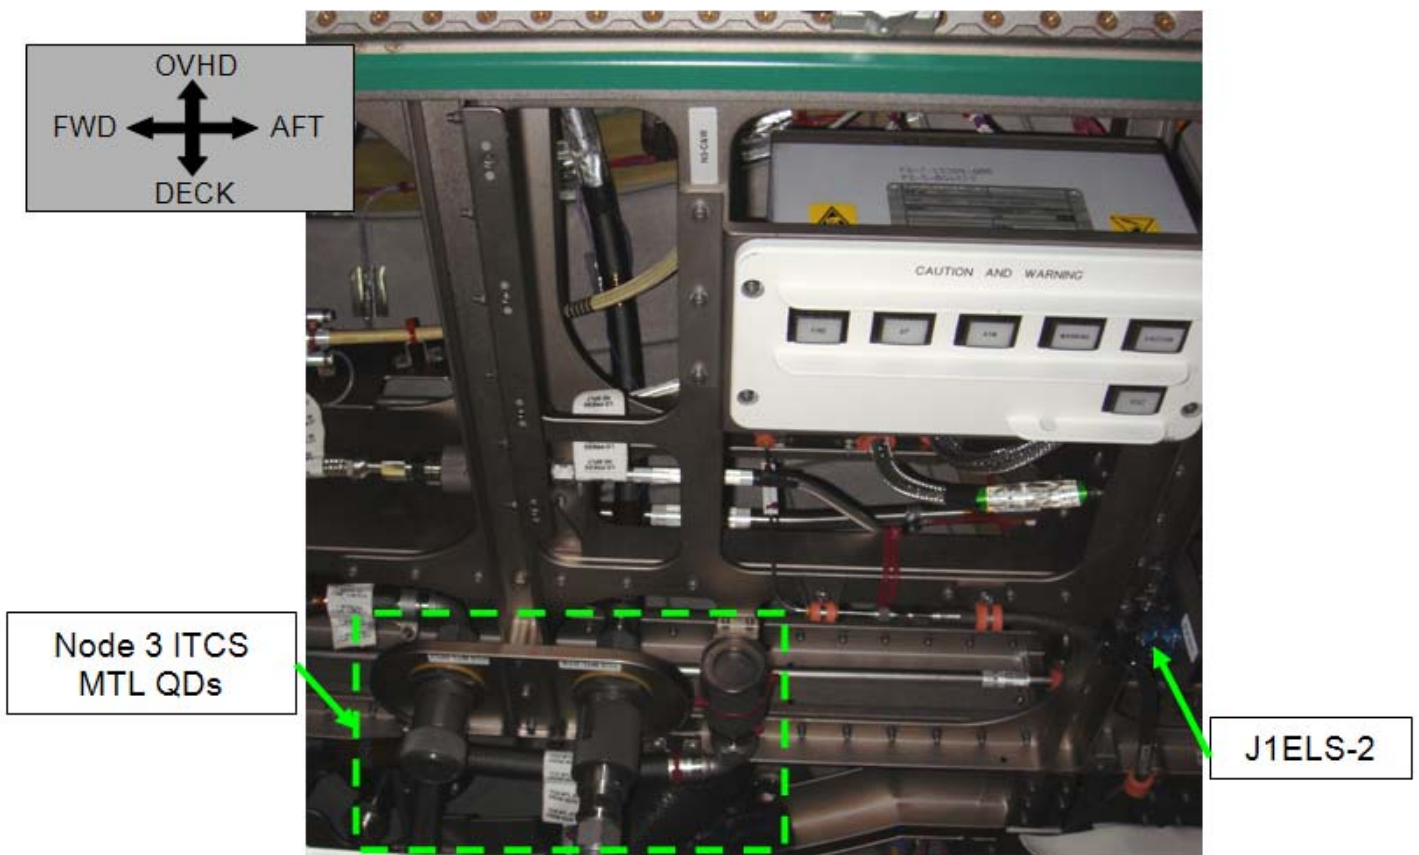

Figure 17.- Node 3 Deck Starboard Endcone (looking Deck Starboard).
Refer to Figure 17.
Refer to Figures 17 and 18.
1. Refer to Figures 17, 18, and 19 for step 28.